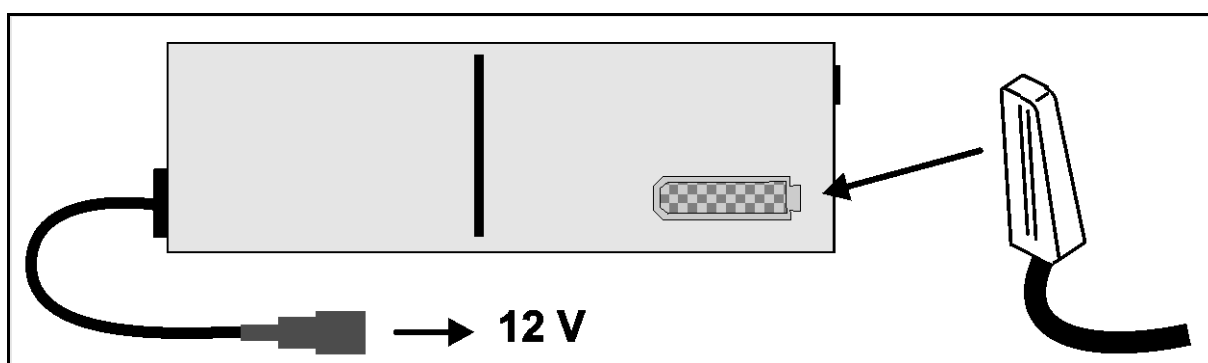

Fig. 5
2. Connect the **HyCLICK** operating device (Fig. 5).